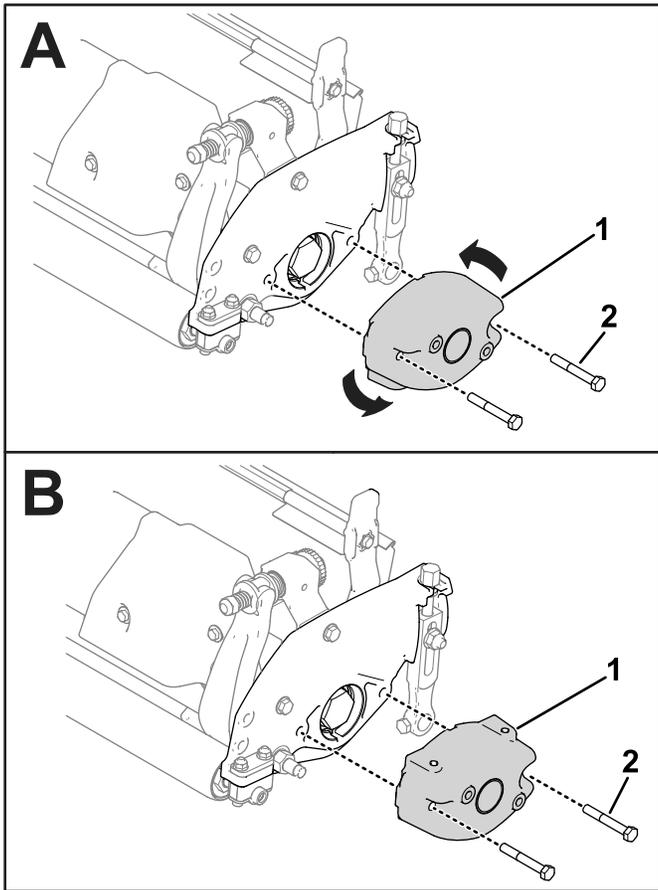

Figure 59
1. Remove the existing counterweight from the cutting unit and install the counterweight so that the threaded holes face upward (Figure 59).